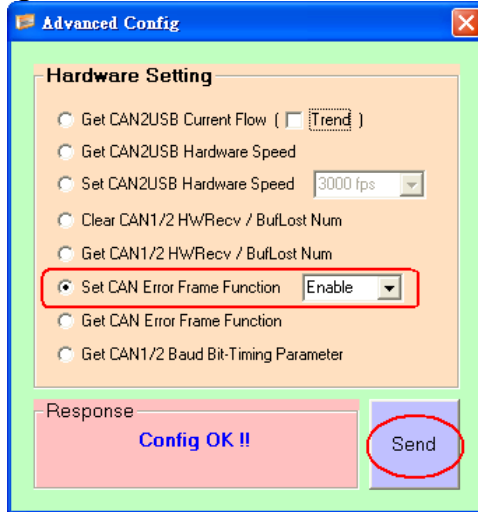

Figure 7-15-1 Enable “CAN Error Frame” Function
- (1) Run “I-7565-H1/H2” utility and connect to I-7565-H1/H2 module.
- (2) In “**Advanced Config**” screen, click the “**Set CAN Error Frame**
**Function**” item and choose **”Enable”** option. Then click **”Send”** button to enable the function like Figure 7-15-1.